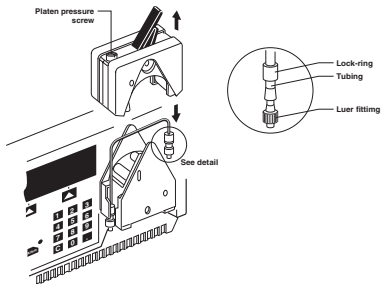

Fig. 1. BioLogic LP system setup.
1. Install 1.6 mm inner diameter (ID) tubing in the pumphead. Adjust the platen pressure screw (on pumphead) using a screwdriver or coin. Turn the screw counterclockwise as far as it will go, then turn clockwise three full turns. Assemble with fittings and lock rings as shown in Figure 1.